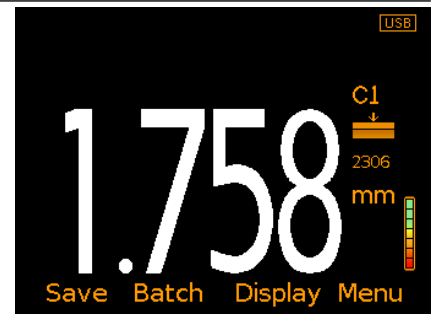

Figure 5: Readings
- **Readings (Figure 5);** The reading value is displayed using the resolution as defined by the user, see Section 7.7 on page en-13.